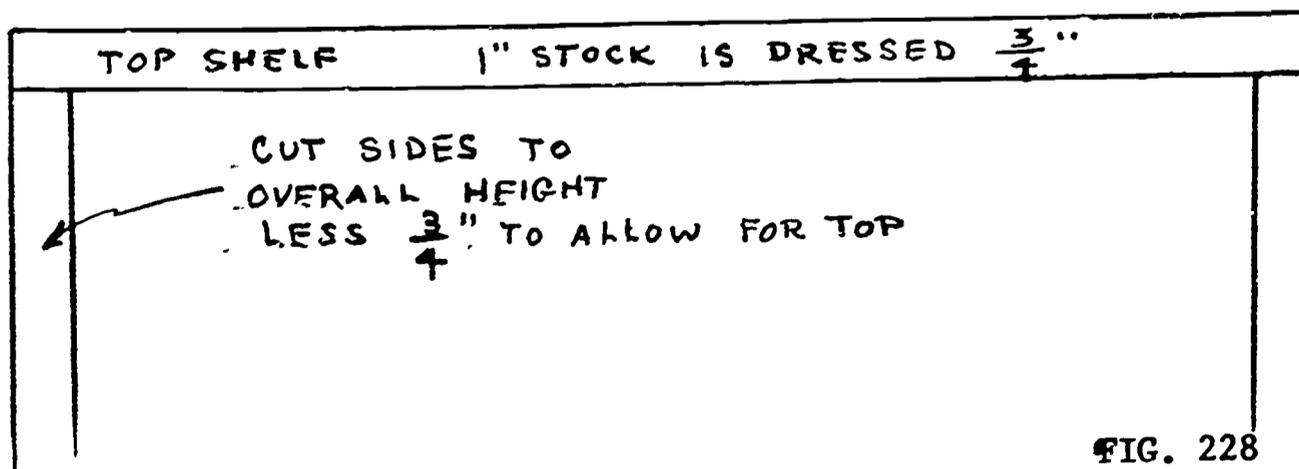

FIG. 228
6. Square up and saw to size the two sides. (36" less the thickness of the top shelf -  $\frac{3}{4}$ "). One inch stock is finished at  $\frac{3}{4}$ ". See figure 228.